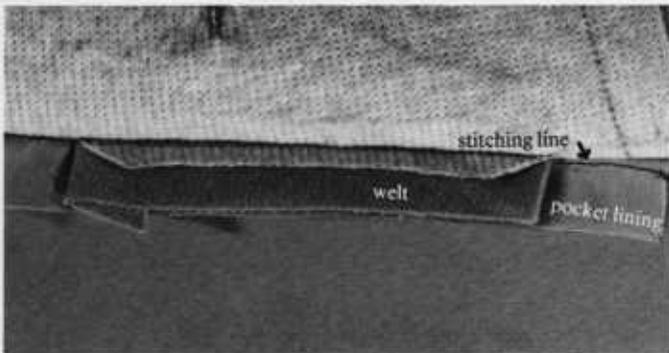

figure 42
- Pull the welt seam allowances through the opening and press seam allowances downward. Stitch a single pocket lining to the welt seamline and press downward (*figure 42*).